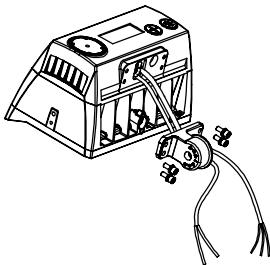

FIGURE 1
1. Remove the bracket mounting screws on the fixture and run the wires through the bracket (FIG 1)